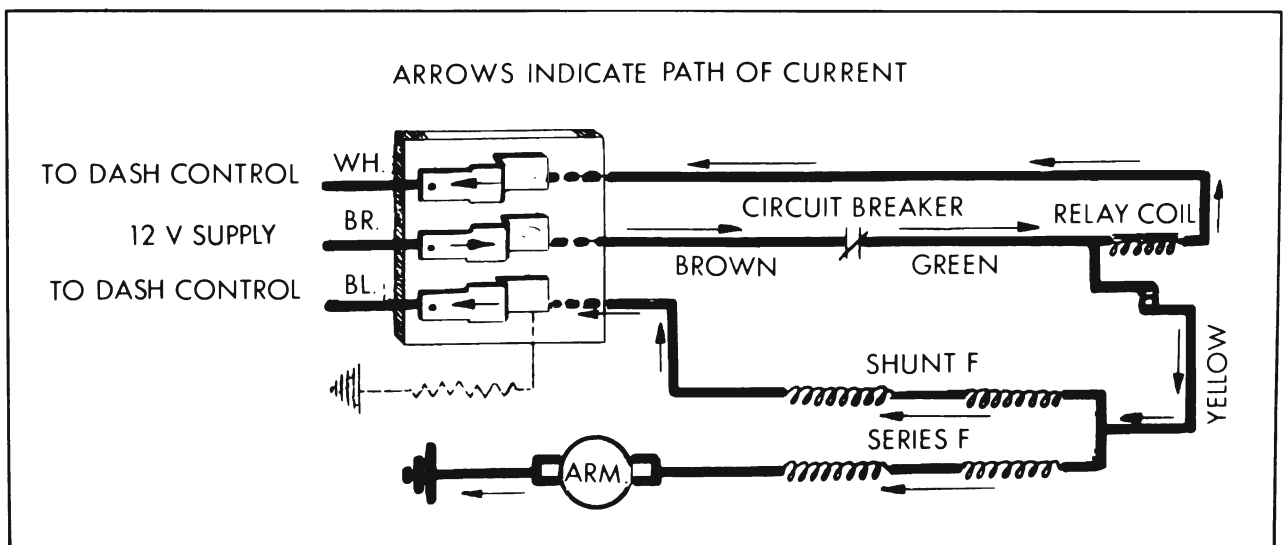

Figure 1-17—"Lo" Speed Operation—Wiring Circuit
a. "Lo" Speed-- When the switch is turned to the "Lo" position current passes from the live feed (brown) through the circuit breaker, which is located inside the motor case to the green lead. See Figure 1-17. Current then flows through the relay coil, to the white lead